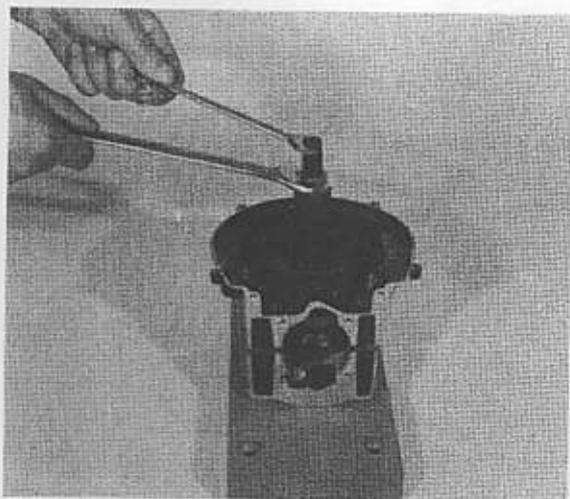

Fig. 38
6. Using the tool, Part No. 735.888, and the screw B pull the crankshaft into the upper crankcase half (Fig. 38)
6. Usando l'attrezzo Part. No. 735888 e la vite B inserire l'albero motore sul semicarterm inferiore (Fig. 38).